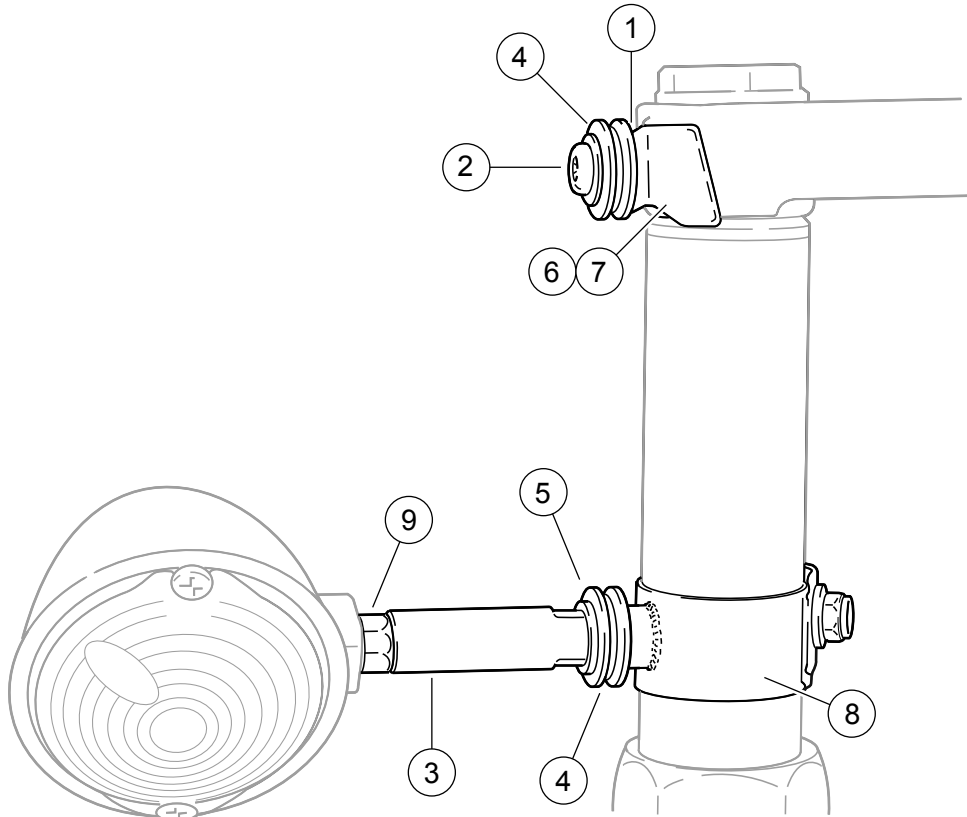
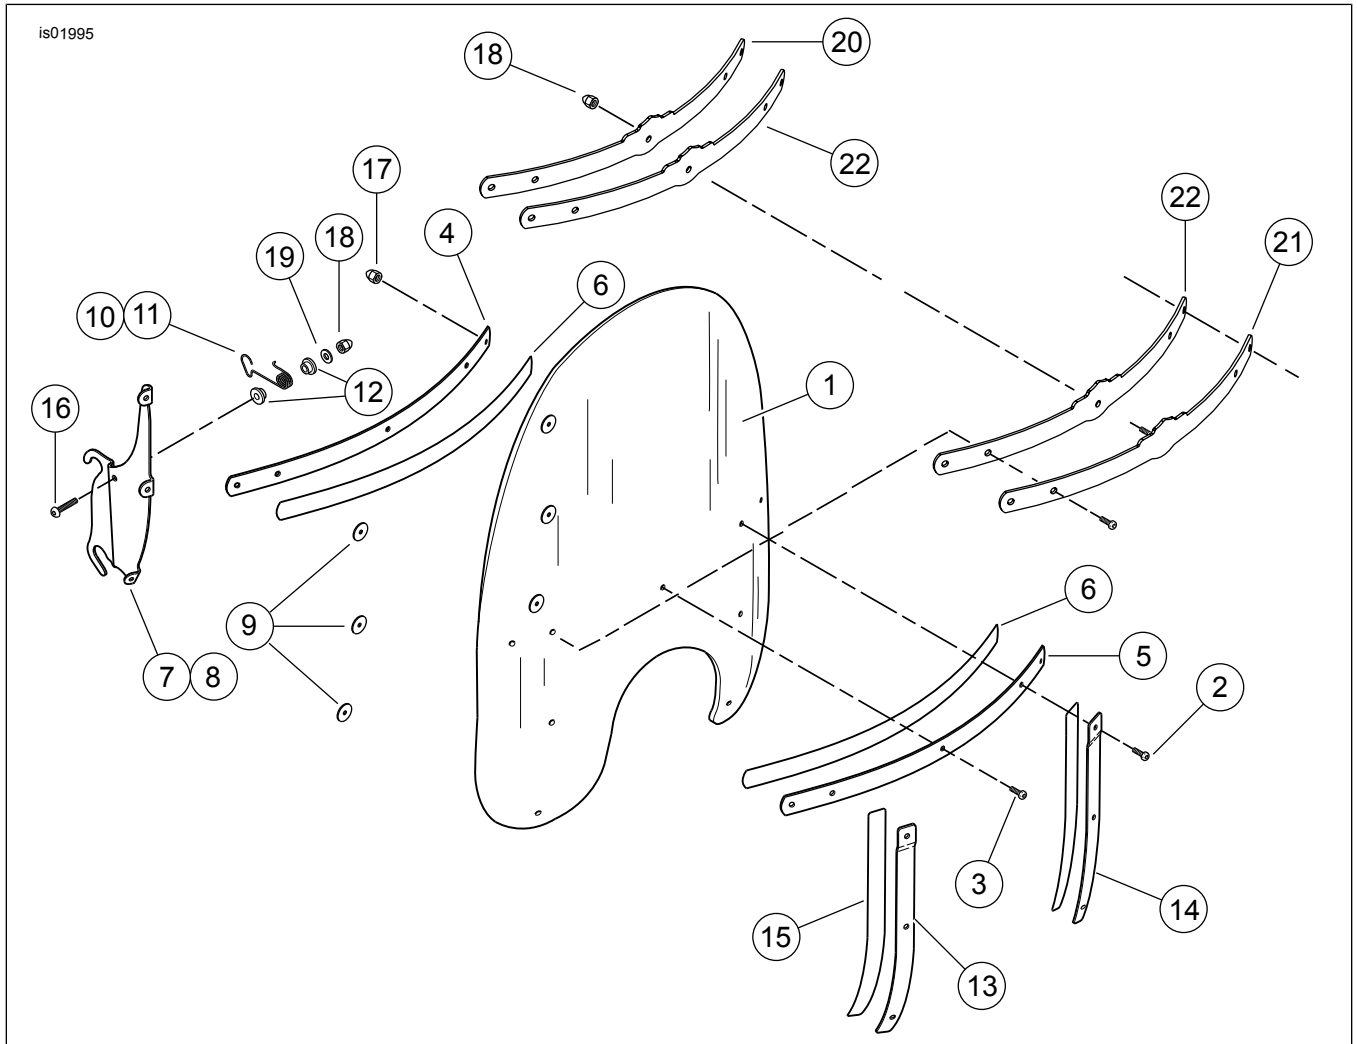
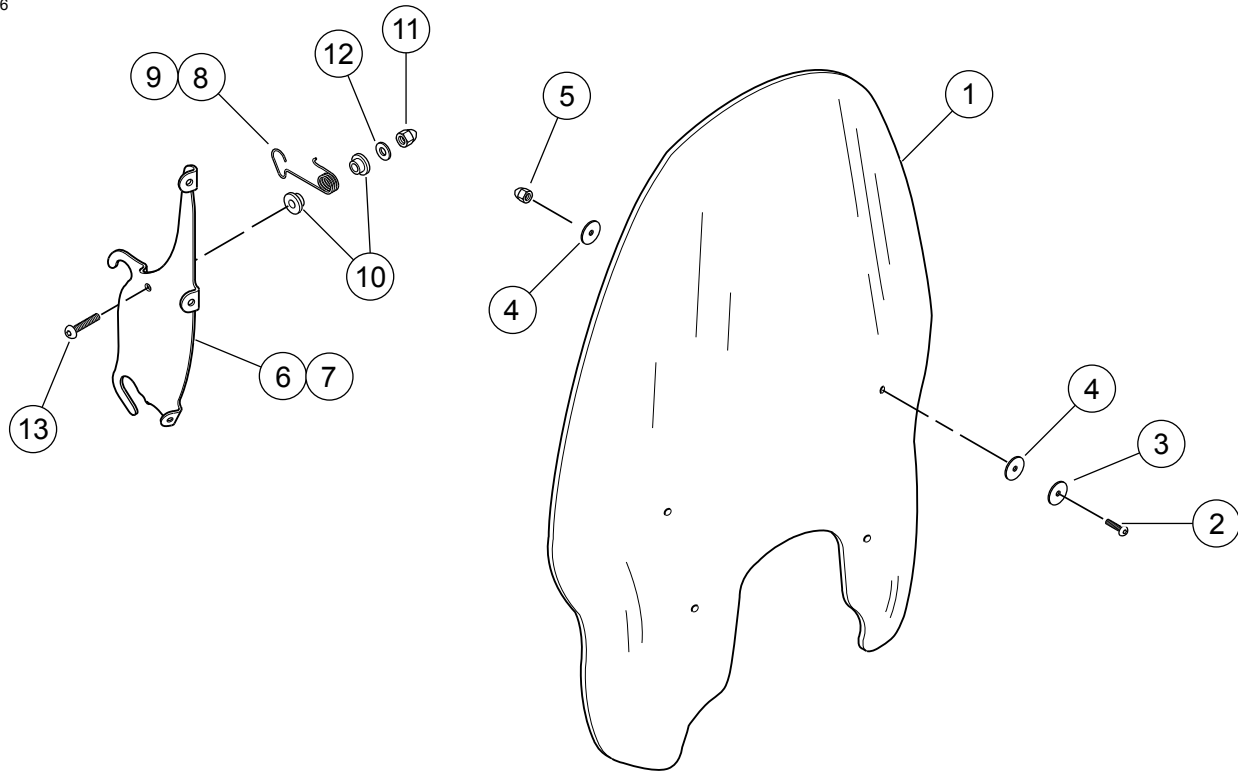

Figure 5. Service Parts: Docking Hardware
Figure 6. Service Parts: Windshield
Figure 7. Service Parts: Windshield Kits
See Figure 5, Table 2 and Figure 6, Table 3 and Figure 7, Table 4.
3. **On all models except FXSTB:** Remove turn signal lamp from right side of handlebar (brake side). Remove ball receptacle from turn signal assembly. Install lockwasher (12) and chrome acorn nut (11) from kit on end of mirror stalk to hold mirror in place.
7. See Figure 5. Assemble mounting hardware for lower windshield mounting as shown in illustration. Assemble in the following order, and leave assembly loose:
- a. Locate the mounting hardware supplied in the docking hardware kit. Thread jam nut (9) from mounting kit onto the turn signal standoff end that is opposite the end with the flats (3).
- c. Place flat washer (5) and bushing (4) on standoff.
- d. Thread the clamp (8) onto the standoff.
8. See Figure 5. Assemble hardware for upper windshield mounting as shown in illustration and tighten button head screws to 20 N·m (15 ft-lbs). The spacer (1), not visible in the illustration, fits between the retainer wire bracket (6, 7) and the upper fork triple clamp.